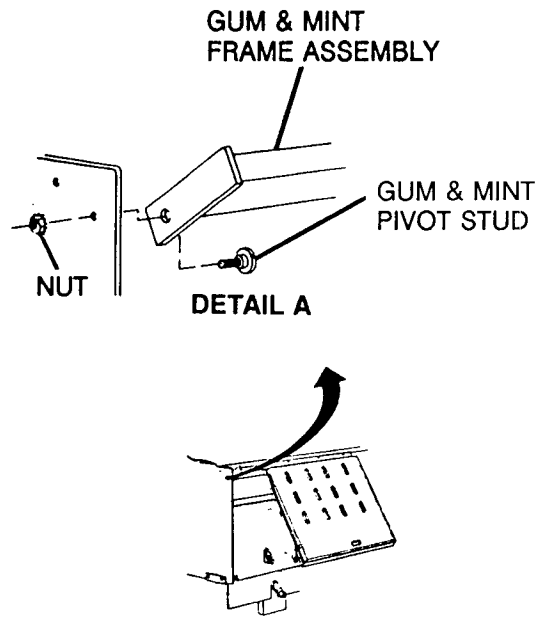

FIGURE 5. Gum & Mint Magazine Assembly Mounting
2. Mount the Gum and Mint Frame Assembly in the position previously occupied by the filler panel. The lower mounting hole should be used on each side. Refer to Figure 5, Detail A. Secure the Frame to each side of the delivery pan using a Gum and Mint pivot stud (Index 9) and a nut (Index 10).